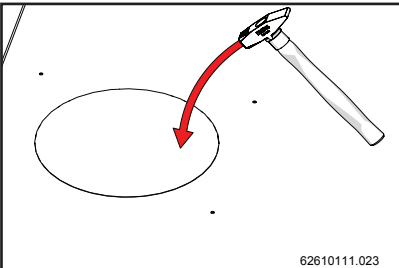
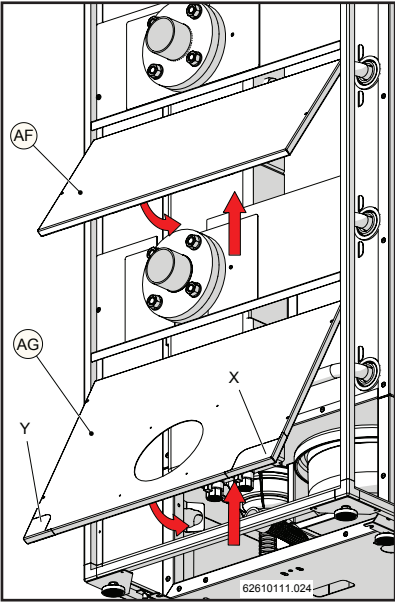
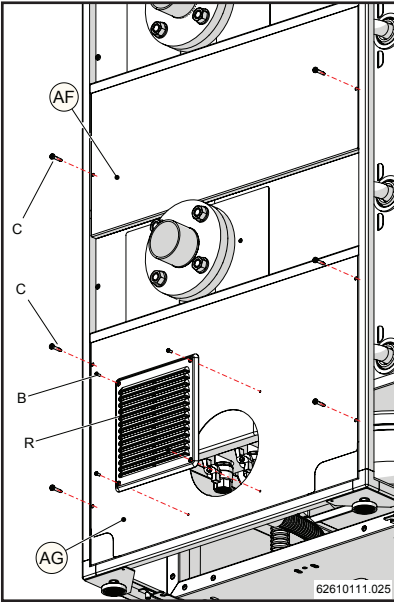

Figure 15-55
Figure 15-57
Figure 15-58
- 11.- Remove the pre-cut discs from covers (AG) and (AH) as shown in figures 15-55 and 15-56 and, depending on the type of electrical and condensate removal system in the place where the boiler is installed, it is possible to remove the pre-cut sections "X" and "Y" on the cover (AG) shown in figure 15-57 if necessary.
- 12.- Put on the covers (AF) and (AG) as shown in figure 15-57 and fasten them to the structure with screws "C" (figure 15-58). Then attach the anti-rain grill "R" to the cover (AG) using screws "B", as shown in figure 15-58.